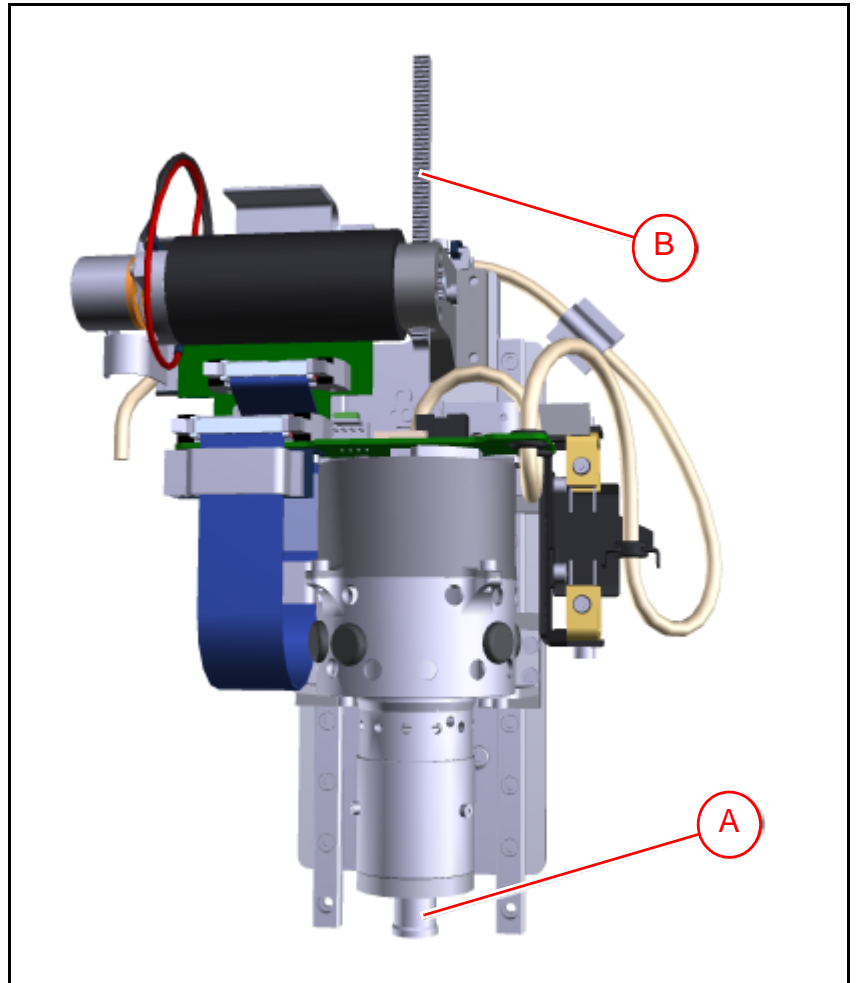

Figure 16-10. Midas mount head, Z rack and tool head position.
1. Clean dirt and dust out with a Q-tip from the inside of the tool head ('A' in Figure 16-10). Be careful not to damage the force sensor inside the tool head.